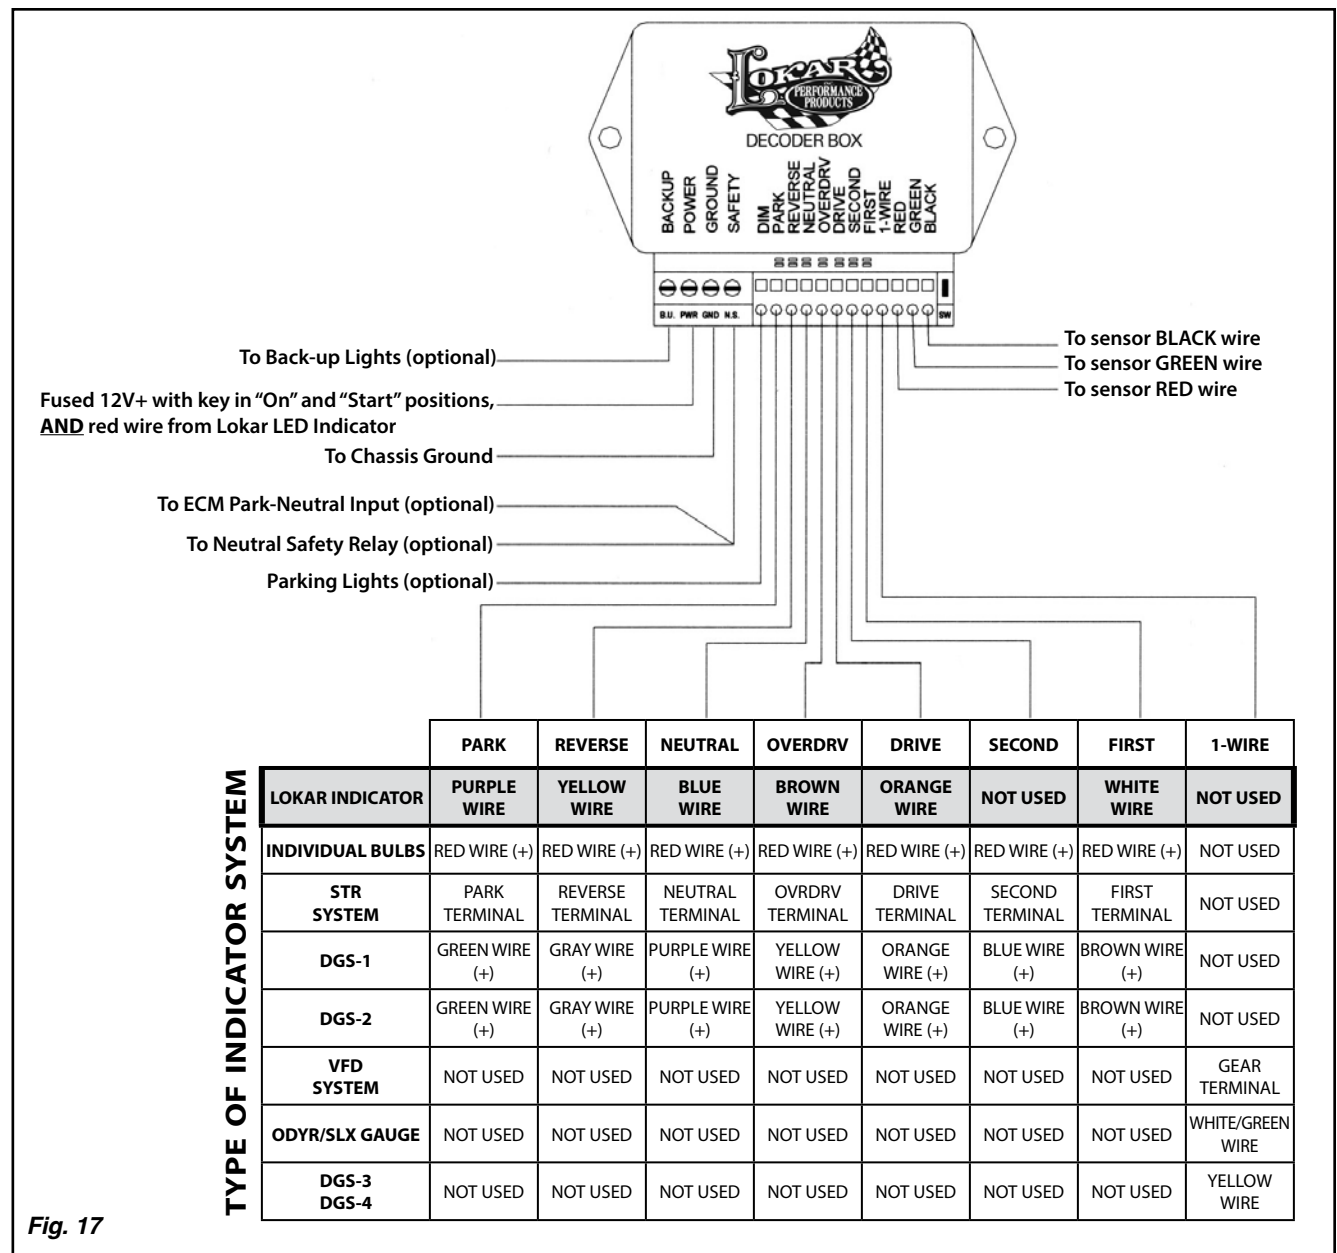

Fig. 17
Connect a solid chassis ground to the "GROUND" terminal on the decoder box. **Fig. 17**
Step 25: Following the wiring diagram in **Fig. 17**, connect the rest of the wires from the LED indicator to the decoder box.